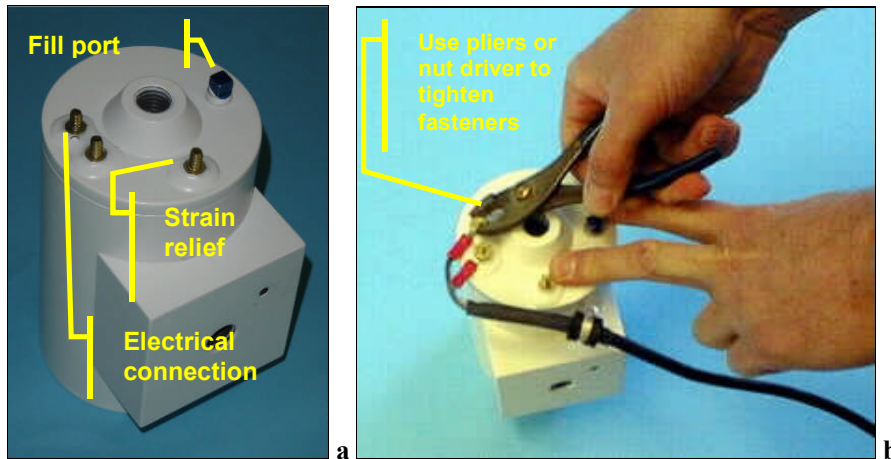

Figure 3. Sensor preparation.
- 2) Verify that the sensor contains fluid. You may shake the sensor to determine if it contains fluid. A sloshing sound indicates proper filling. Some air space above the fluid needed for thermal expansion - see instructions on sensor fluids in this section for details. Figure 3 shows the location of the sensor fluid fill port and the mounting points of the sensor cable. Any tools used for adding fluid, tightening fasteners or the port plug should either be non-magnetic or have a clean, rust free hard-chromed finish.